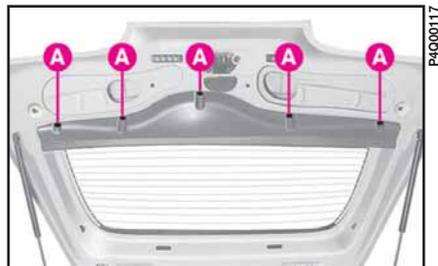

fig. 31
1) loosen the five screws **A**-fig. 31 and remove the complete covering;